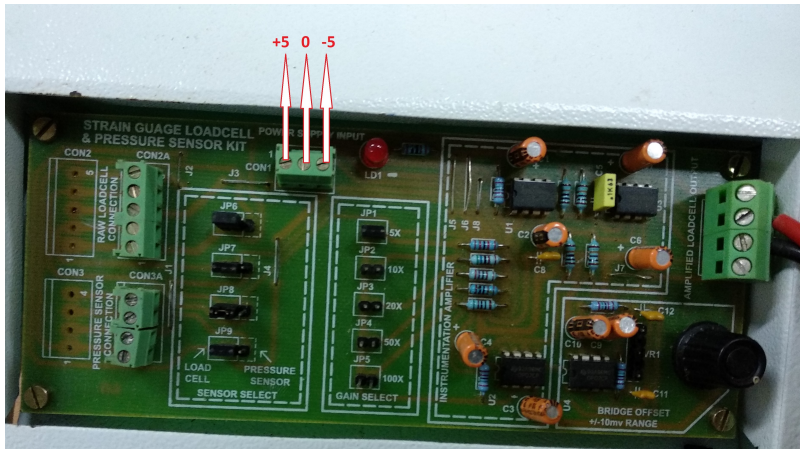
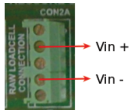

Figure: 2
Figure: 4
- 3 Connect power supply ($\pm 5V$ and ground for bridge) to the weighing machine as shown in the next slide (Fig. 2). Connect raw load cell output to the input of your 3 op-amp instrumentation amplifier. Refer to Fig 4.
- 3 Connect raw output (unamplified differential output) of load cell to the designed instrumentation amplifier. Refer to Fig 4.